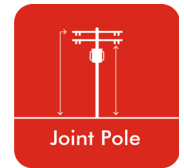

Figure 2
2. When you see the Joint Pole icon (Figure 2), tap GET to install the app like you would any other.